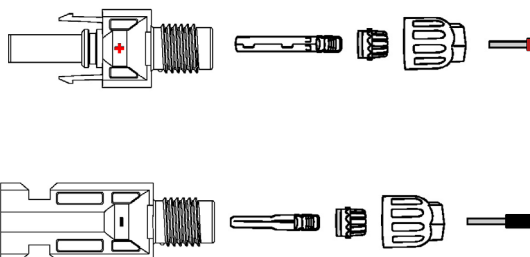

Fig. 23. Disassembling the connector.
- c. Remove the connector from the accessory bag, as shown in Fig. 23.